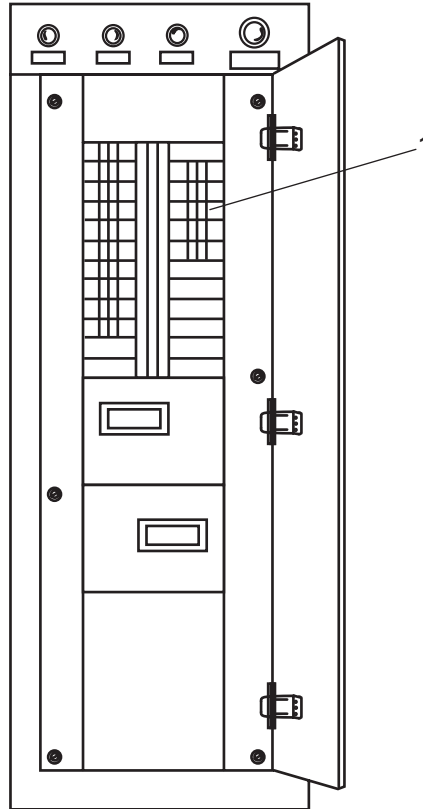
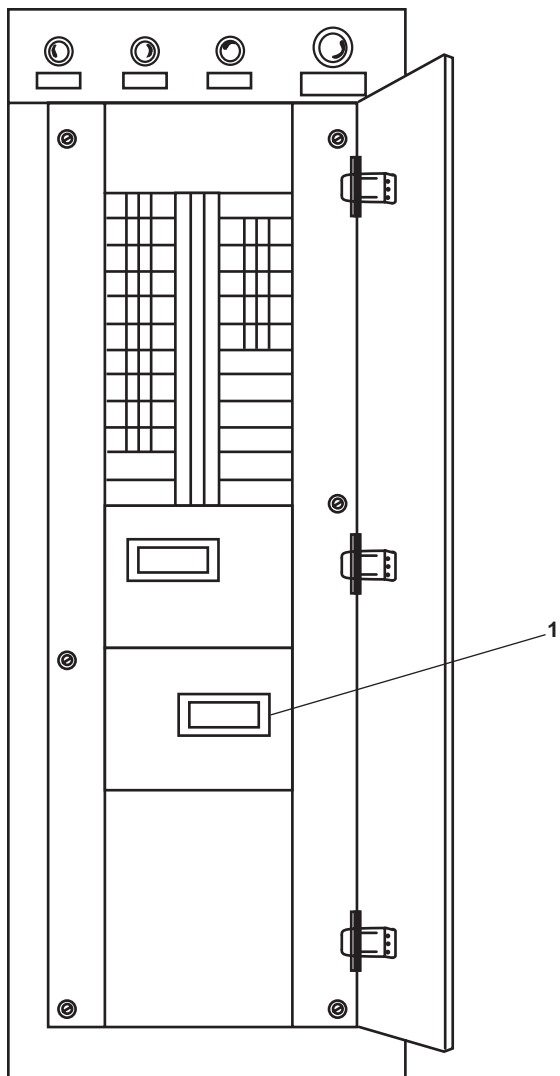

Figure 2. Load Center Distribution Panel (LT 803 Only)
Figure 3. Load Center Distribution Panel (All Other Vessels)
2. At the engine room load center distribution panel, set the 120V DISTRIBUTION PANEL No. 4 circuit breaker (figure 2, item 1) **(LT 803 Only)** or (figure 3, item 1) **(All Other Vessels)** to ON.